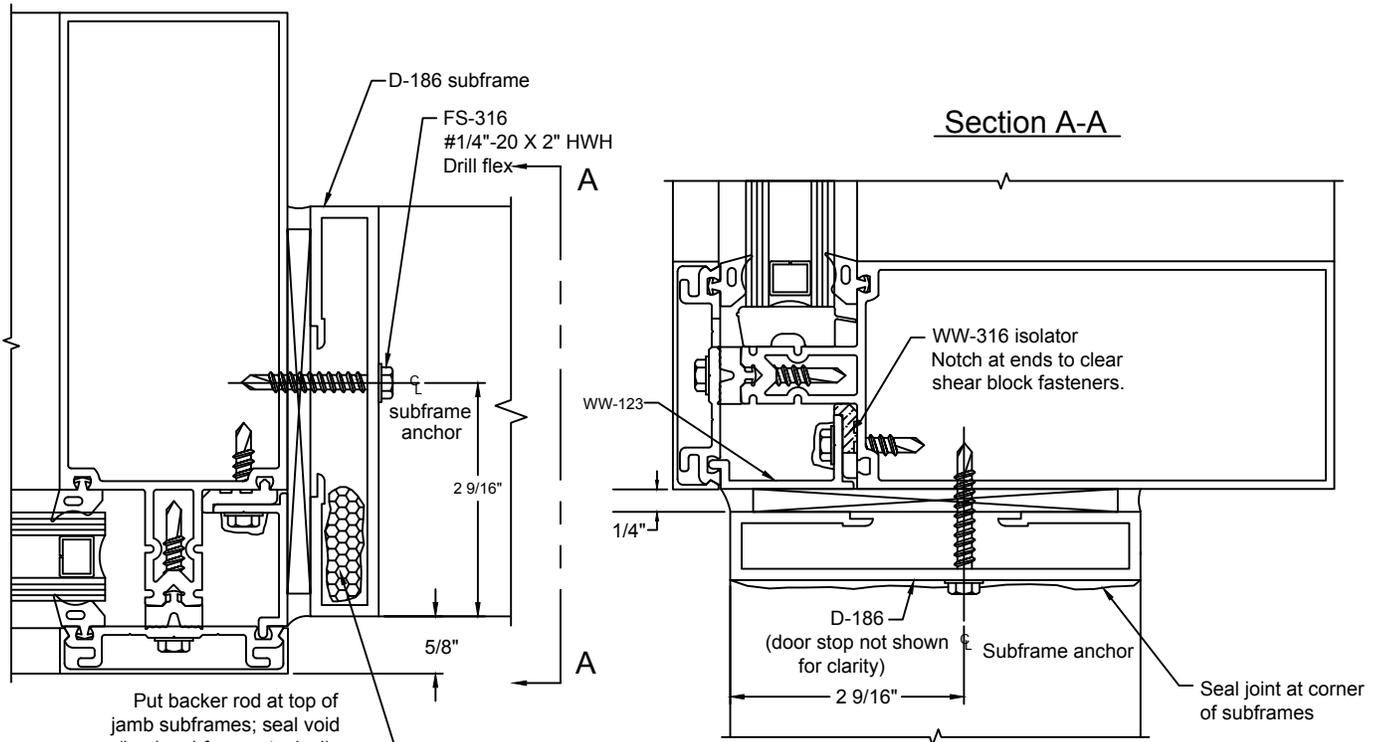

Figure 32
C.2.3 Bed subframes in sealant. Anchor to curtain wall framing members with FS-322 #12 x 1" HH STS at 18" O.C. Cap seal all fasteners and seal joint between jamb and header subframes. Seal tops of the jamb subframes. SEE FIGURE 32, page 36.